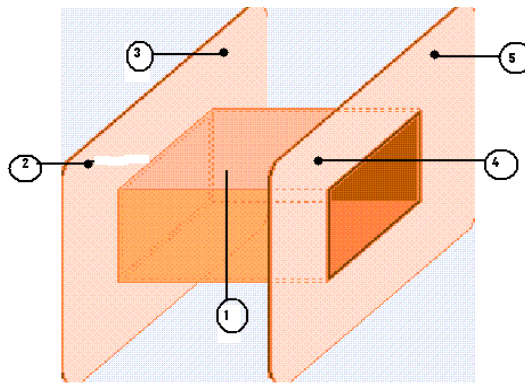

Figure 2.2: The bobbin
4. Take a bobbin of 1" * 1" (as shown in Figure2.2). At point 1 wrap insulating paper, take one end of primary winding out from point 2, mount the bobbin on winding machine then start winding copper wire around the bobbin. Until the desired number of turns for primary are completed. Cut the wire and take it out from point 3.
3. Take a bobbin of 1" * 1" (as shown in Figure 2.2) at point 1 wrap insulating paper, take one end of winding out from point 2, mount the bobbin on winding machine then start winding copper wire around the bobbin. For creating taps of an autotransformer take out the copper wire of desirable length (don't cut the copper wire) and after it again start winding until the desired number of turns are completed. Cut the wire and take it out from point 3.